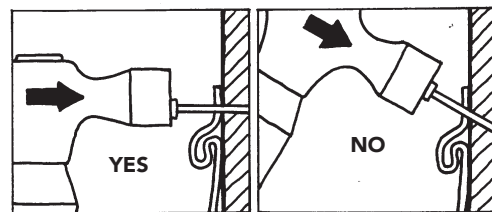

Figure 16
- Drive fasteners straight and level to prevent distortion and buckling of the panel (Figure 16).